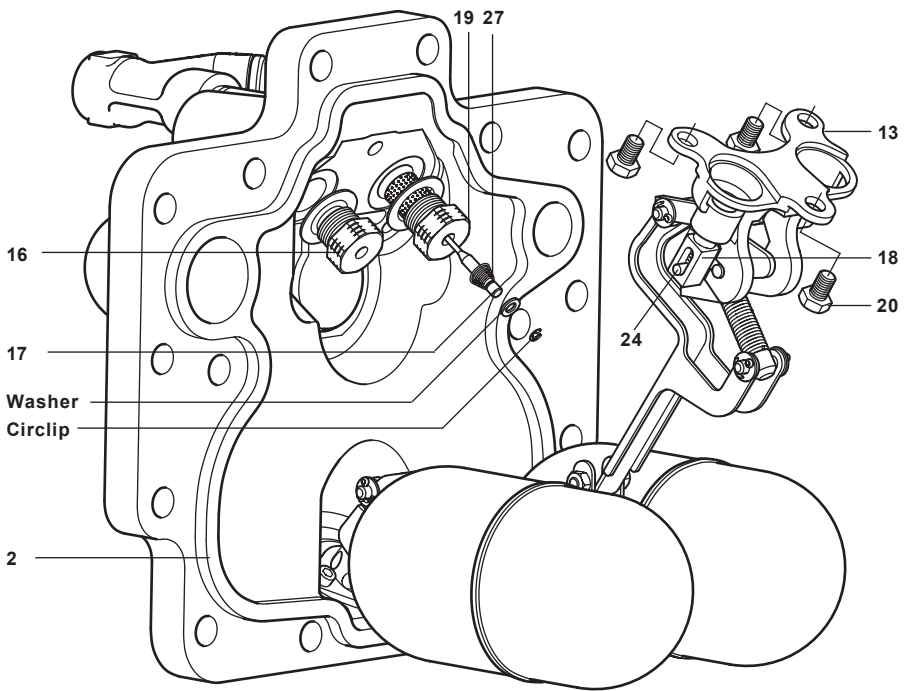
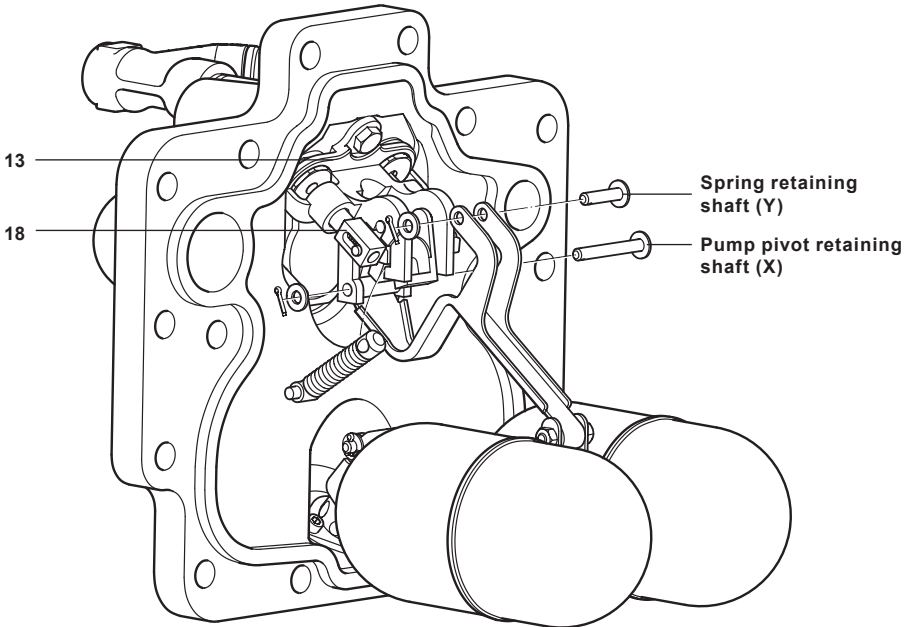

Fig. 2 APT14 shown
Fig. 3 APT14 shown
3. Carefully remove the circlip, washer and the inlet valve spring (item 27) from the end of the steam inlet valve (item 17).
4. Remove the three M8 bolts (items 20) using the 13 mm A/F socket.
9. Insert the replacement steam valve assembly (item 16 and item 17) according to Figure 2.
10. Place a new metal gasket (item 19) onto the threads of the seat before tightening into the cover.
15. To remove the exhaust valve (item 18), remove split pins, washers, and shafts (X and Y) from the top spring pivot point and pump pivot point (See Figure 3).
17. Draw the actuator arm with the exhaust valve downwards within its slots until it becomes free. It may be necessary to slide the exhaust valve backwards against its internal spring to free it from the pump bracket guide (item 13).
20. Ensure the actuator is correctly aligned and located within the slots of the pump bracket (item 13).
22. When refitting the spring retaining shaft (Y) (30 mm long) and pump pivot retaining shaft (X) (52 mm long), always use new split pins and washers.